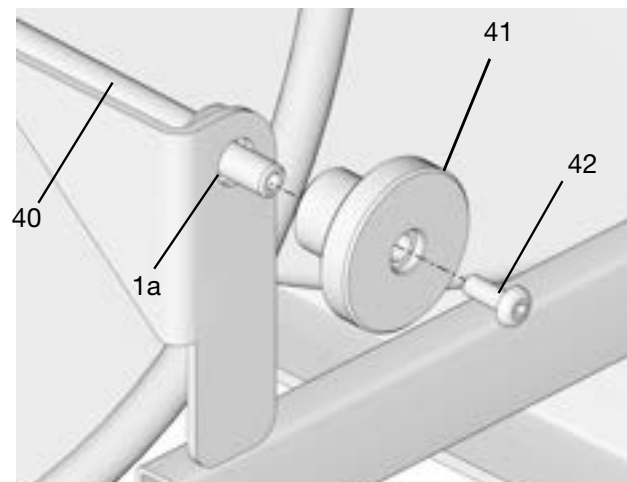
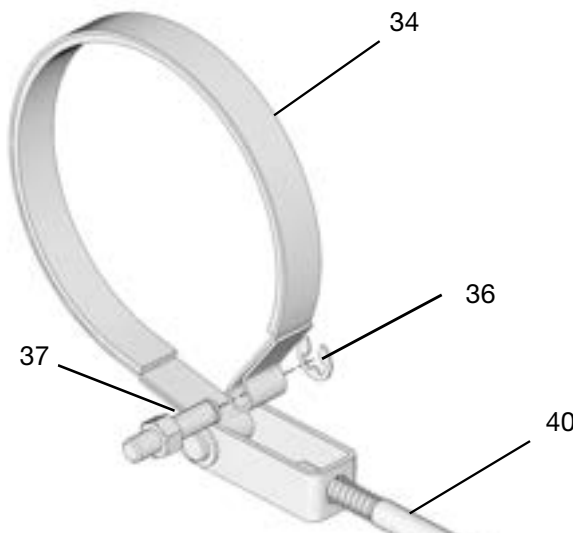

FIG. 27
FIG. 29
2. Turn knob (41) counter-clockwise to remove brake tension.
3. Loosen and remove screw (42) from end of knob (41) (FIG. 27).
4. Remove knob (41) from end of rod (40) (FIG. 27).
5. Loosen and remove nut (24) and pull band clip (34a) off anchor pin (37).
6. Remove clip (36) from anchor pin (37) (FIG. 29).
7. Remove (37) from band (34) (FIG. 29).
8. Remove band (34) from brake hub (12).
9. Pull end of rod (40) out of frame (1a) (FIG. 27).
14. Feed end of rod (40) through hole (27b) (FIG. 27).
15. Reinstall knob (41) over end of rod (40). Install screw (42). Tighten screw securely to hold knob in place (FIG. 27).